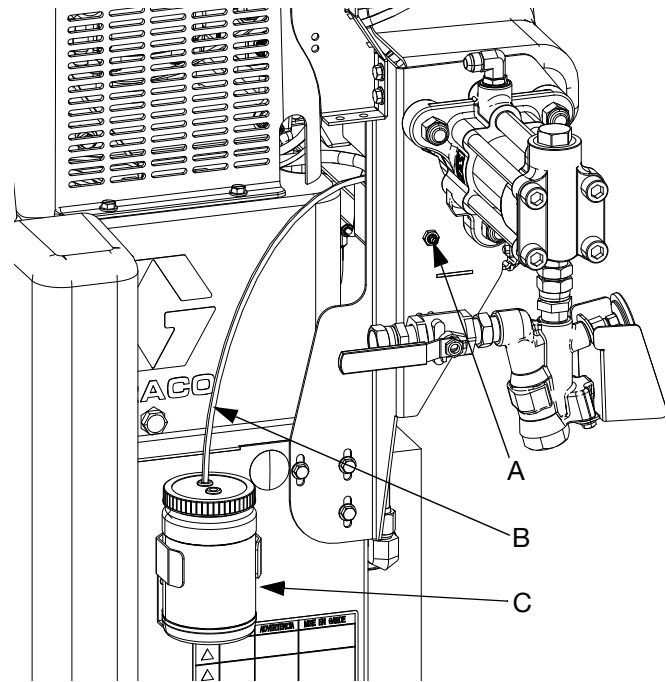

Fig. 3:
2. Attach grease gun to the grease fitting. Pump new grease into the pump until fresh grease is observed discharging from grease relief tube (B) into the grease reservoir bottle (C).
3. Repeat for other pump. See Fig. 3.